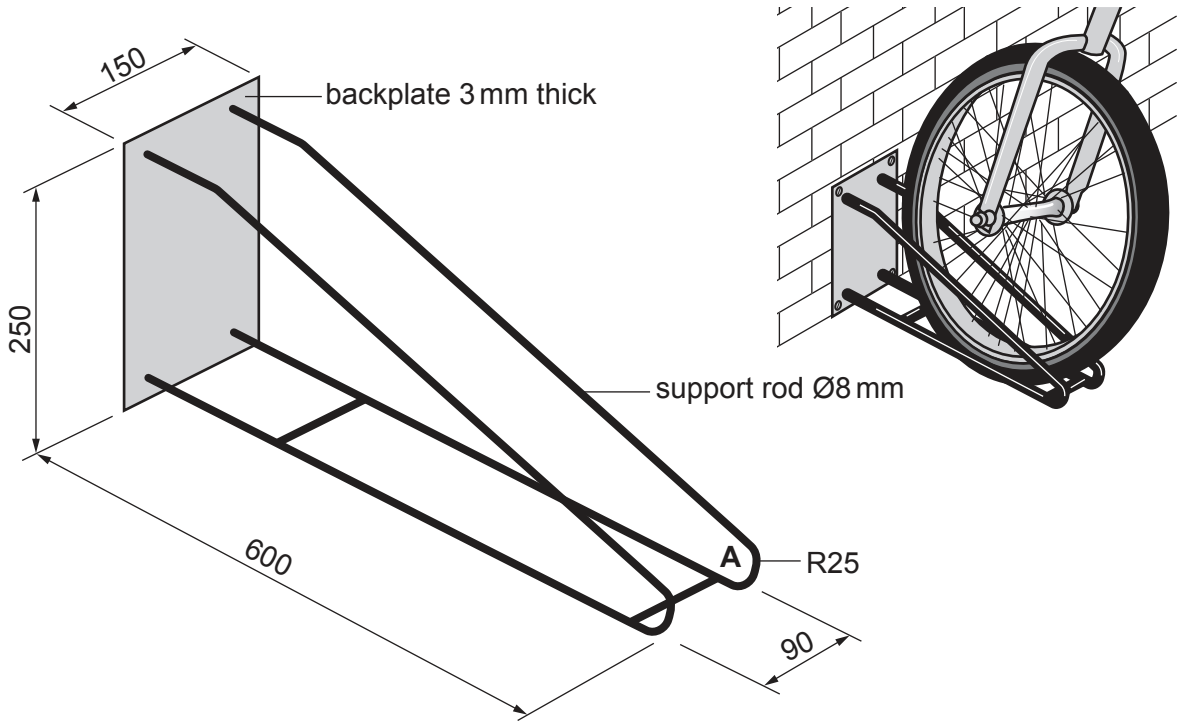
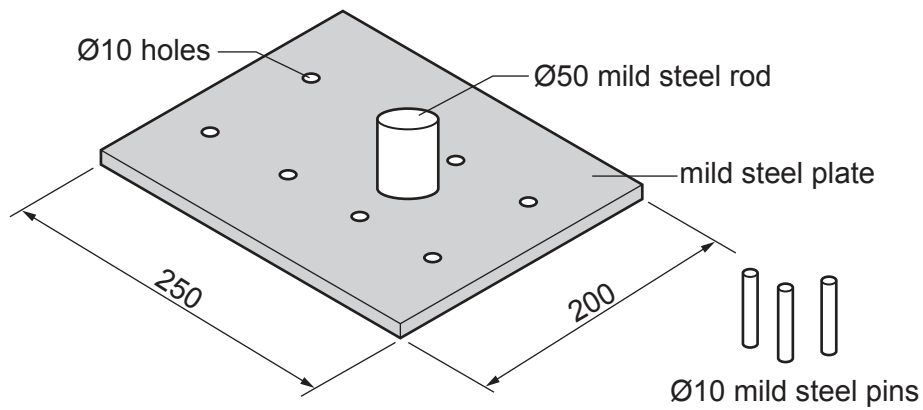
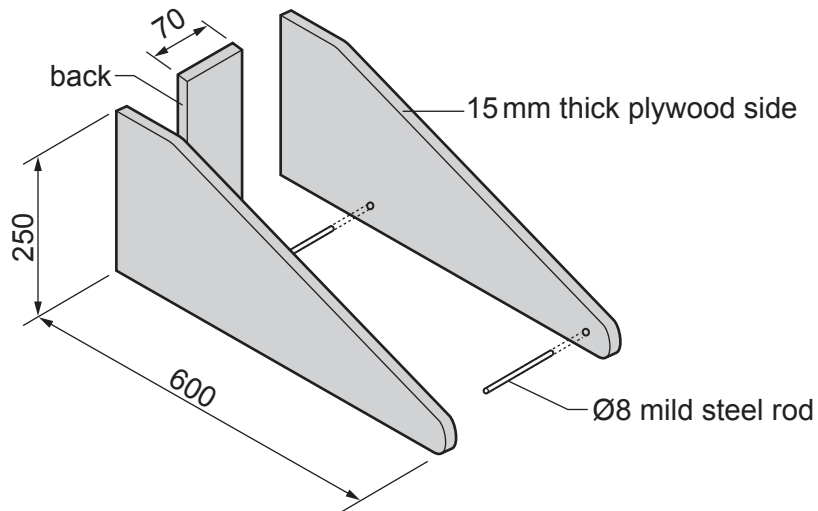

Fig. 12.1
Fig. 12.3
Fig. 12.6
12 Fig. 12.1 shows a wall-mounted cycle rack made from mild steel.
- (c) Fig. 12.3 shows a bending jig that could be used when bending the support rods to the shape shown at **A** in Fig. 12.1.
- (f) Fig. 12.6 shows an exploded view of a modification to the design of the cycle rack shown in Fig. 12.1. The support rods and backplate have been replaced with 15 mm thick plywood.